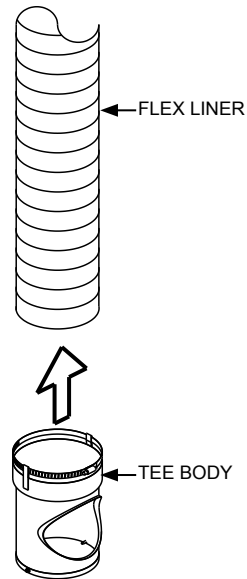

FIG. 2
Step 2: If a Tee is used, insert flex liner into the top of tee body and secure using clamp band (See FIG. 2). Tee Cap should be attached to the bottom of tee Body. **Remove tee branch prior to insulating liner.** The tee is to be insulated along with the liner.